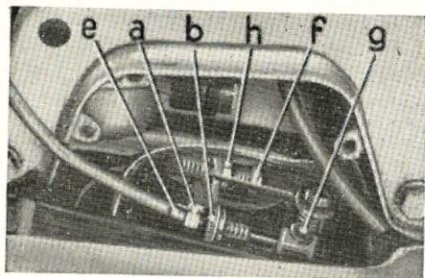

Fig. 14
- 3) Tighten the adjusting screw a, fig. 14, until the gasket of the control cable shows some play, so that the gear shift lever is no longer pulled by the cable.
- 4) Turn anticlockwise screw f, fig. 14 of the gear shift lever g, fig. 14, until the former is no longer supported by the lever. Now the gasket of cable e, fig. 14, is given a 2 mm play. In other instances the adjusting screw a, fig. 14, may need further tightening;
- 5) Tighten screw f, fig. 14, until same gear shift lever g, fig. 14, then rotate by a further complete turn. This further turn is necessary in order that the pressure of the spring operating with the high gear, is taken up by screw f, fig. 14.
- 6) Tighten down locknut h, fig. 14, so as to ensure a positive fastening of screw f, fig. 14.
- 7) Now, act on adjusting screw a, fig. 14, until the gasket of the cable is given a 2 mm play. This adjusting screw must then be locked by means of locknut b, fig. 14.
- 9) Rotate by hand the driving sprocket of the chain; should you feel some resistance, that will mean that the gear shift fork g, fig. 14, is not in the proper « idle » position. By acting on adjusting screw f, fig. 14, no rattling noise of the gear teeth must be heard when rotating the driving sprocket of the chain.
The cause: The steel cable has slightly elongated, which is clearly felt when engaging the high gear. This play of the steel cable is taken up by acting on the adjusting screw a, fig. 14.